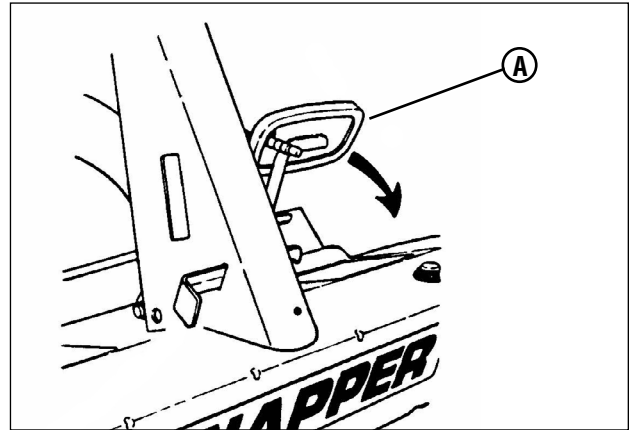

Figure 5: Engaging the clutch/brake pedal
3. Press the Clutch/Brake Pedal (**A, Figure 5**) all the way down and hold while starting the engine.